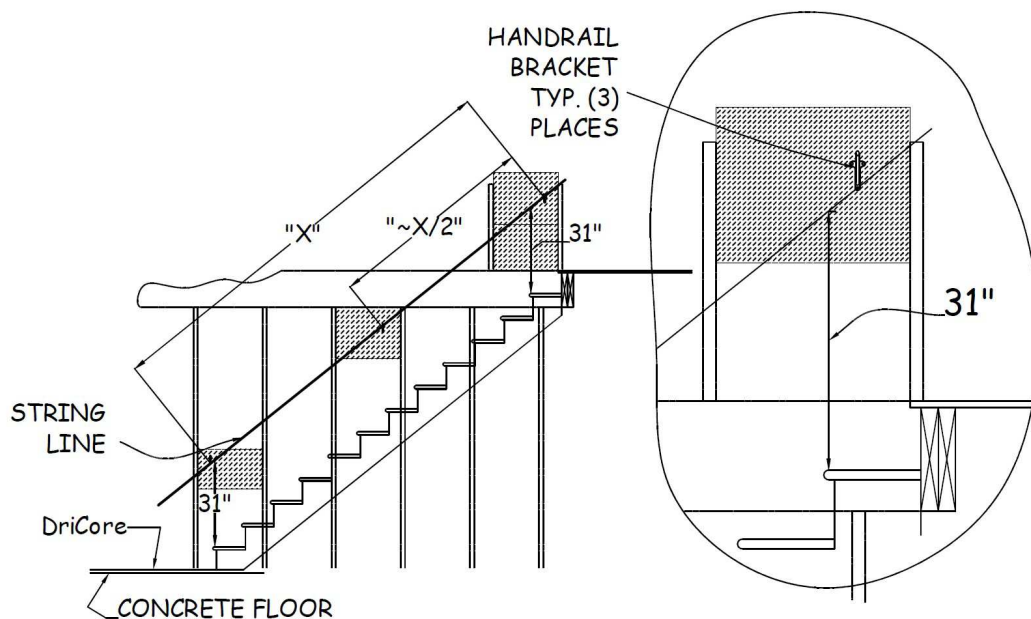

Figure 16-2. Handrail Bracket Installation.
4. Along this line, first mark the wall for locations of the top and bottom handrail brackets. Locate the top bracket 10-12" from the top end of the stairway wall and the bottom bracket 10-12" from the bottom end of the stairway wall, or from door trim if present (see Figure 16-2). Check for blocking or stud with an 8d or 2½" finish nail.
NOTE: Blocking has been installed for the handrail at the top, middle, and bottom of the stairs (see Section 10.6.5 and Figure 16-2).
13. Set the skirtboard on saw horses with the unfinished side up (any tear out from the circular saw will then be on the unfinished side). Lay the template on the board and orient it to establish the proper cut orientation at the top of the skirtboard. If the top angle of the template is correct, use it to mark for cutting. If not, use the adjustable bevel angle established above. This will establish Point 1 (see Figure 16-2).